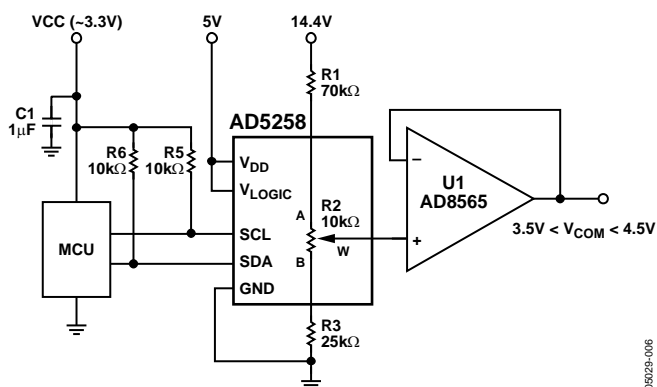

Figure 45. V_{COM} Adjustment Application
5. After all data bits have been read or written, a STOP condition is established by the master. A STOP condition is defined as a low-to-high transition on the SDA line while SCL is high. In write mode, the master pulls the SDA line high during the tenth clock pulse to establish a STOP condition (see Figure 45). In read mode, the master issues a no acknowledge for the ninth clock pulse (that is, the SDA line remains high). The master then brings the SDA line low before the tenth clock pulse, and then raises SDA high to establish a STOP condition (see Figure 46).
In particular, LCD panels often require a V_{COM} voltage in the range of 3 V to 5 V. The circuit in Figure 45 is the rare exception in which a 5 V supply is available to power the digital potentiometer.